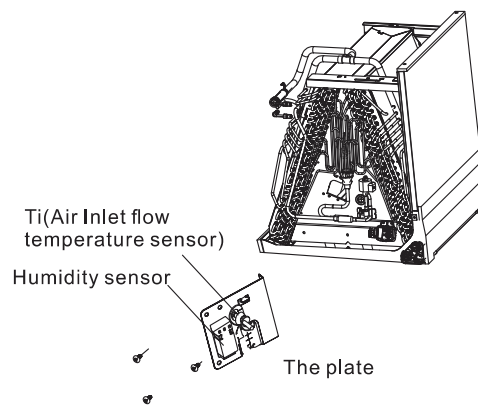

Fig. 4
(4) Remove the wiring clamps. Remove the plate from the evaporator, then remove Ti (Air inlet temperature sensor) and Humidity sensor. (Refer to Fig. 4)
- (8) Insert the wirings into the electrical box in its original position (refer to Fig. 4). And then refix the wirings with wire clamps.